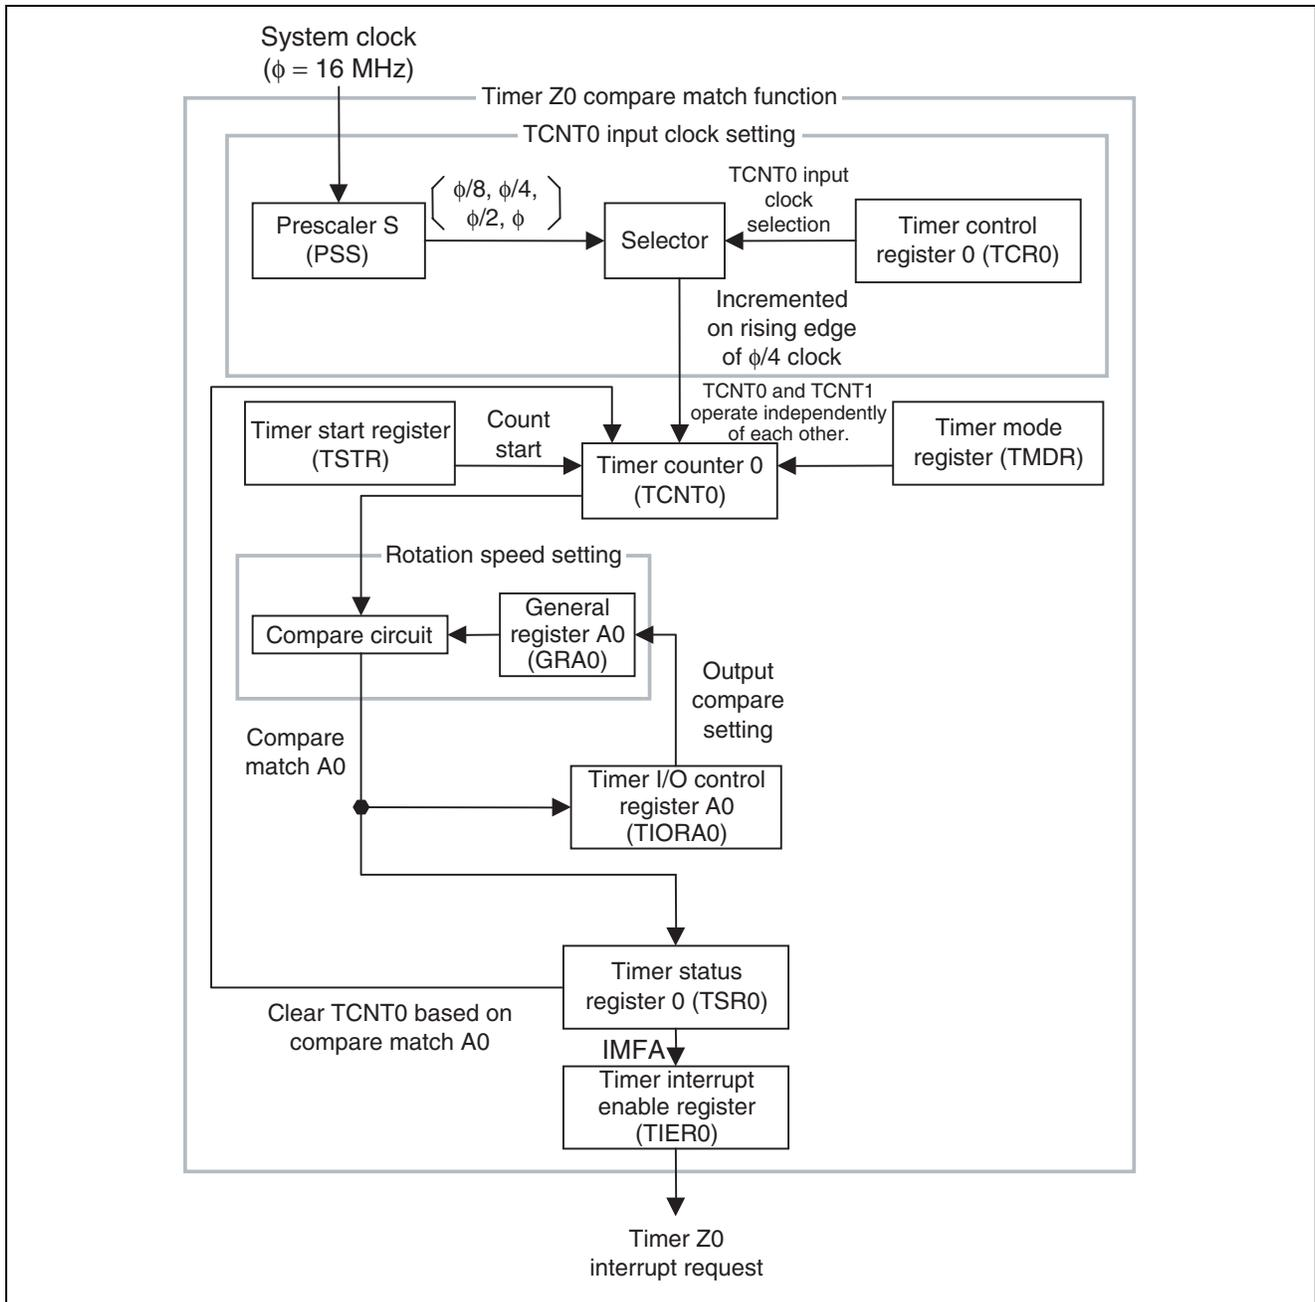

Figure 3 Block Diagram of Timer Z0
2.3 Timer Z is a 16-bit multi-function timer that incorporates an output compare function and input capture function. This sample task uses the output compare function of timer Z. Figure 3 is a block diagram of timer Z. This block diagram of timer Z is explained below.